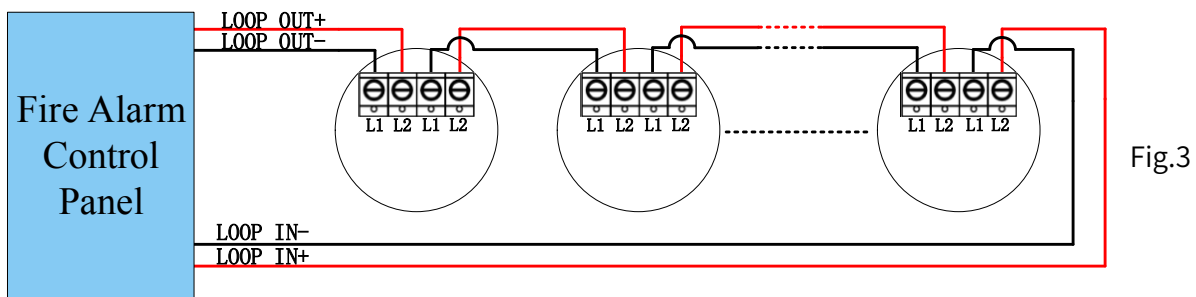

Fig.3
(3) Address coding mode: Please connect the coder and Sounder Beacon correctly according to the wiring in Fig. 3, L1L2 is non-polarity connection, set the coder to coding function, compile the correct address code, press the 'OK' key to complete the address coding setting. (Note: For detailed operation, please refer to the encoder manual)
- Cut off the Control Panel working power, according to the construction drawings, firstly connect all the bases correctly in the way of figure 3;
- (1) Please note the terminal markings when installing and wiring.
- (2) It is not permitted to have the same address between products in the same Loop, otherwise the system will not work properly.
- (3) When installing the Sounder Beacon, please note that there should be no objects in front of the siren that